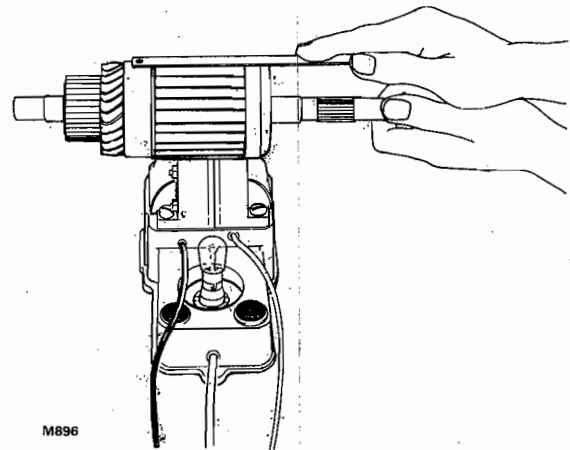

FIG. 2. CHECKING ARMATURE FOR SHORT CIRCUITS
4. Check the armature for short circuits using a growler, see Fig. 2. Place the armature in the growler and hold a thin strip of metal, such as a hacksaw blade, approximately 1 to 1.5 mm away from the armature core. Whilst holding the steel strip in position, rotate the armature slowly in the growler. A short circuit will pull the steel strip tightly against the armature core and cause the strip to vibrate; renew the armature if this occurs.